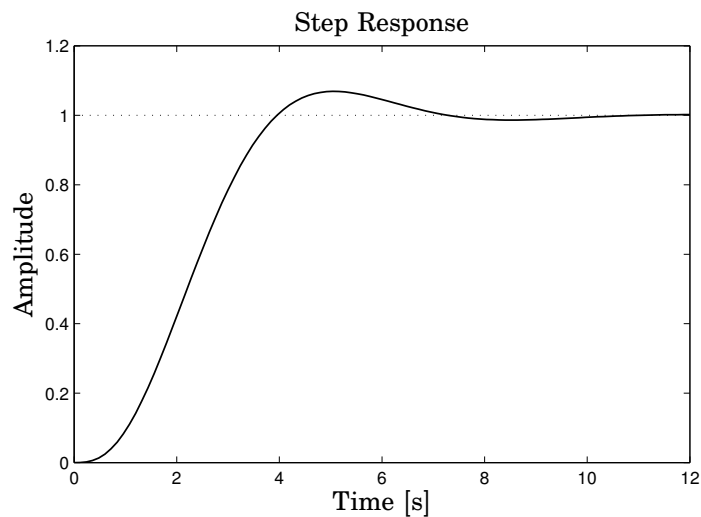
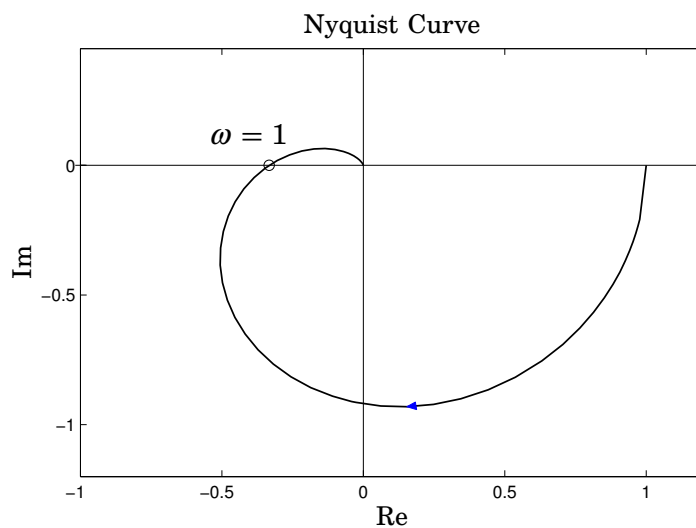

Figure 8.1 Step response of the system in Problem 8.4.
Figure 8.2 Nyquist curve of the system in Problem 8.4.
- 8.4** Use Ziegler–Nichols' step response and frequency method, respectively, to determine the parameters of a PID controller for a system with step response given in Figure 8.1 and Nyquist curve given in Figure 8.2.